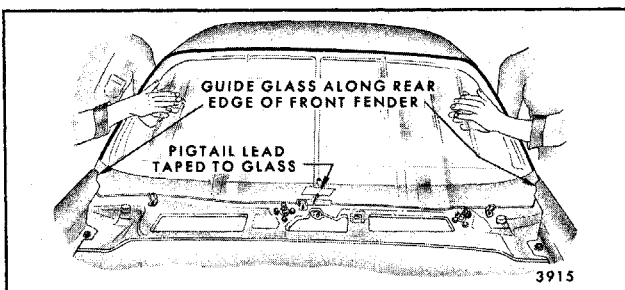

Fig. 11-8-Glass Installation
8. With aid of helper, lift glass into window opening. On back window installations it will be necessary to use suction cups to position glass in opening. Windshield glass can be positioned without aid of carrying devices. As shown in Figure 11-8, carry glass with one hand on inside of glass and one hand on outside. At window opening, put glass in horizontal position. While one man holds glass in this position, second man can reach one arm around body pillar and support glass while other man assumes same
15. With glass centered at opening, place glass on lower supports and use tape guides applied in step 9 to carefully place glass in proper position. On windshield installation, guide lower outer surface of glass along rear edge of front fenders to avoid smearing fresh adhesive material on instrument panel (Fig. 11-8). Make certain glass is properly aligned to tape guides on pillars, and positioned on lower metal supports. Apply light hand pressure to wet-out adhesive material and obtain bond to body opening. Using small disposable brush or flat-bladed tool, paddle material around edge of glass to ensure watertight seal. If necessary, paddle additional material to fill voids in seal. On windshields equipped with embedded antenna, paddle additional material at edges of butyl strip, if required, using care to avoid area near antenna lead pigtail.